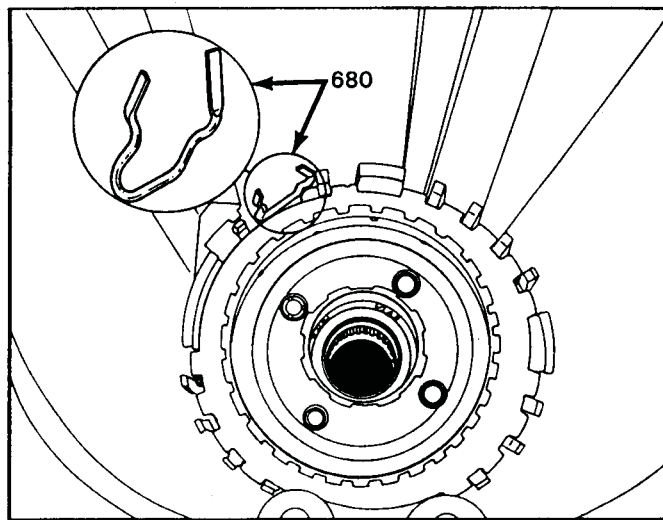

Figure 75
2. Remove "Anti-Clunk" spring from between the support and case (See Figure 75).